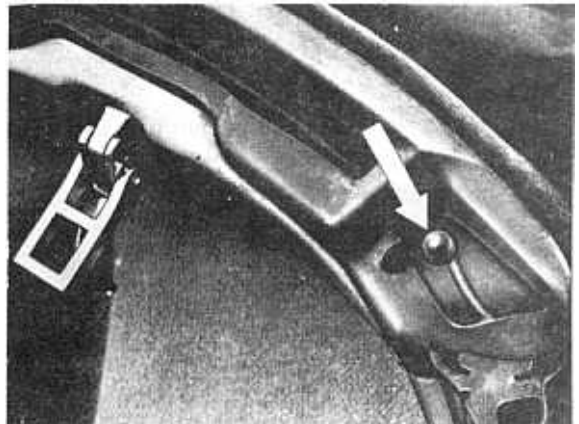

Fig. 71
1. Make sure that guide pins at front top frame align with bearing sockets of windshield frame posts (see fig. 71 and 72).